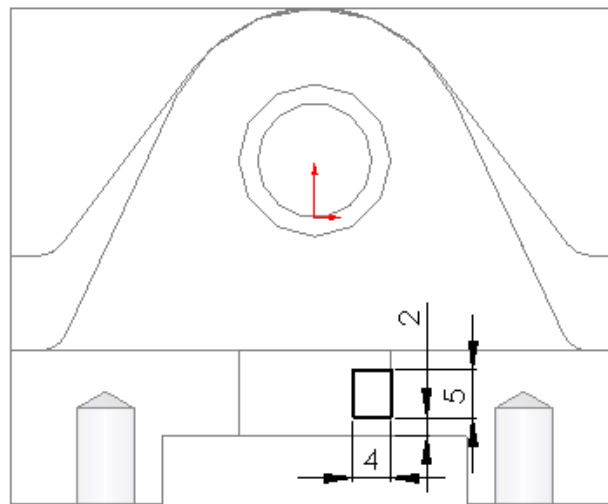

Figure 11-57 Sketch of the slot
5. Create the sketch of the slot as shown in Figure 11-57.